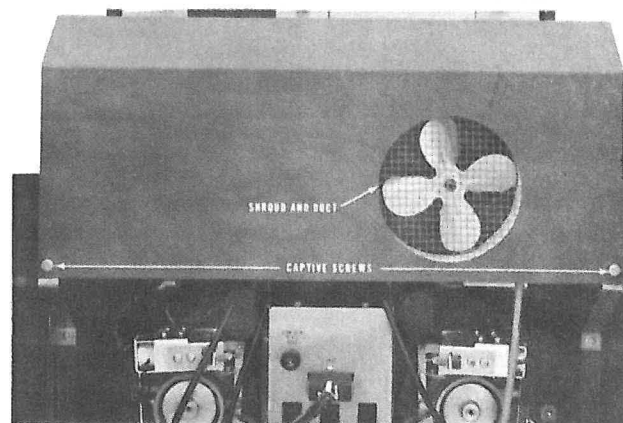

Fig. 2-2. Front Panel Mounting Details
2.3 CONSOLE FRONT PANEL REMOVAL (See Figure 2-2)